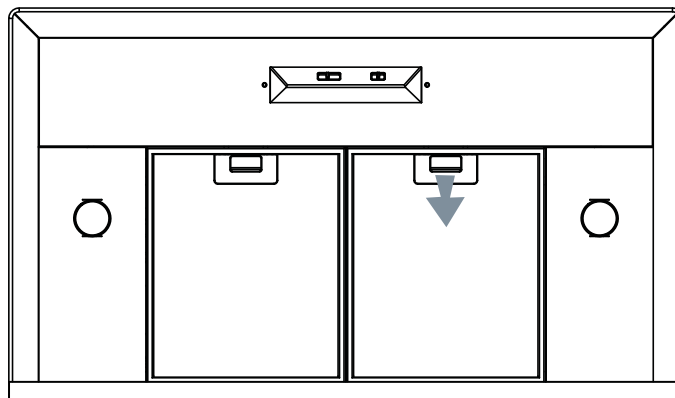

Fig 5
**Removing Aluminum Mesh Filters (Fig 5)**